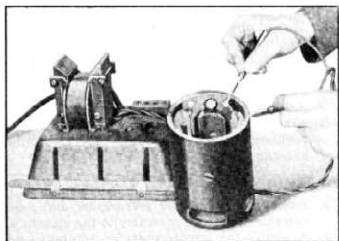

Fig. 42—Field Coil Test for Ground
- Place one test prod on frame and the other on field coil lead (fig. 42).